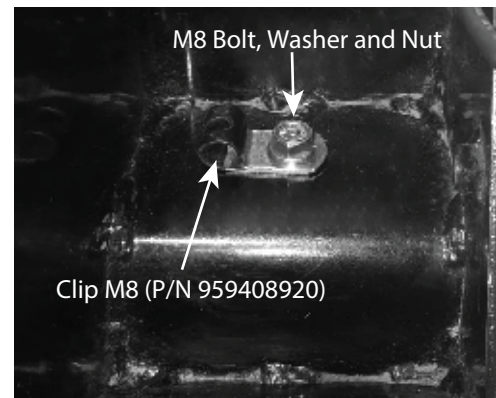

Figure 48. Secure Clip M8
2. Secure the clip M8 (P/N 959408920) with bolt, washer and nut on the lower right side of back of rear cover. See Figure 48.